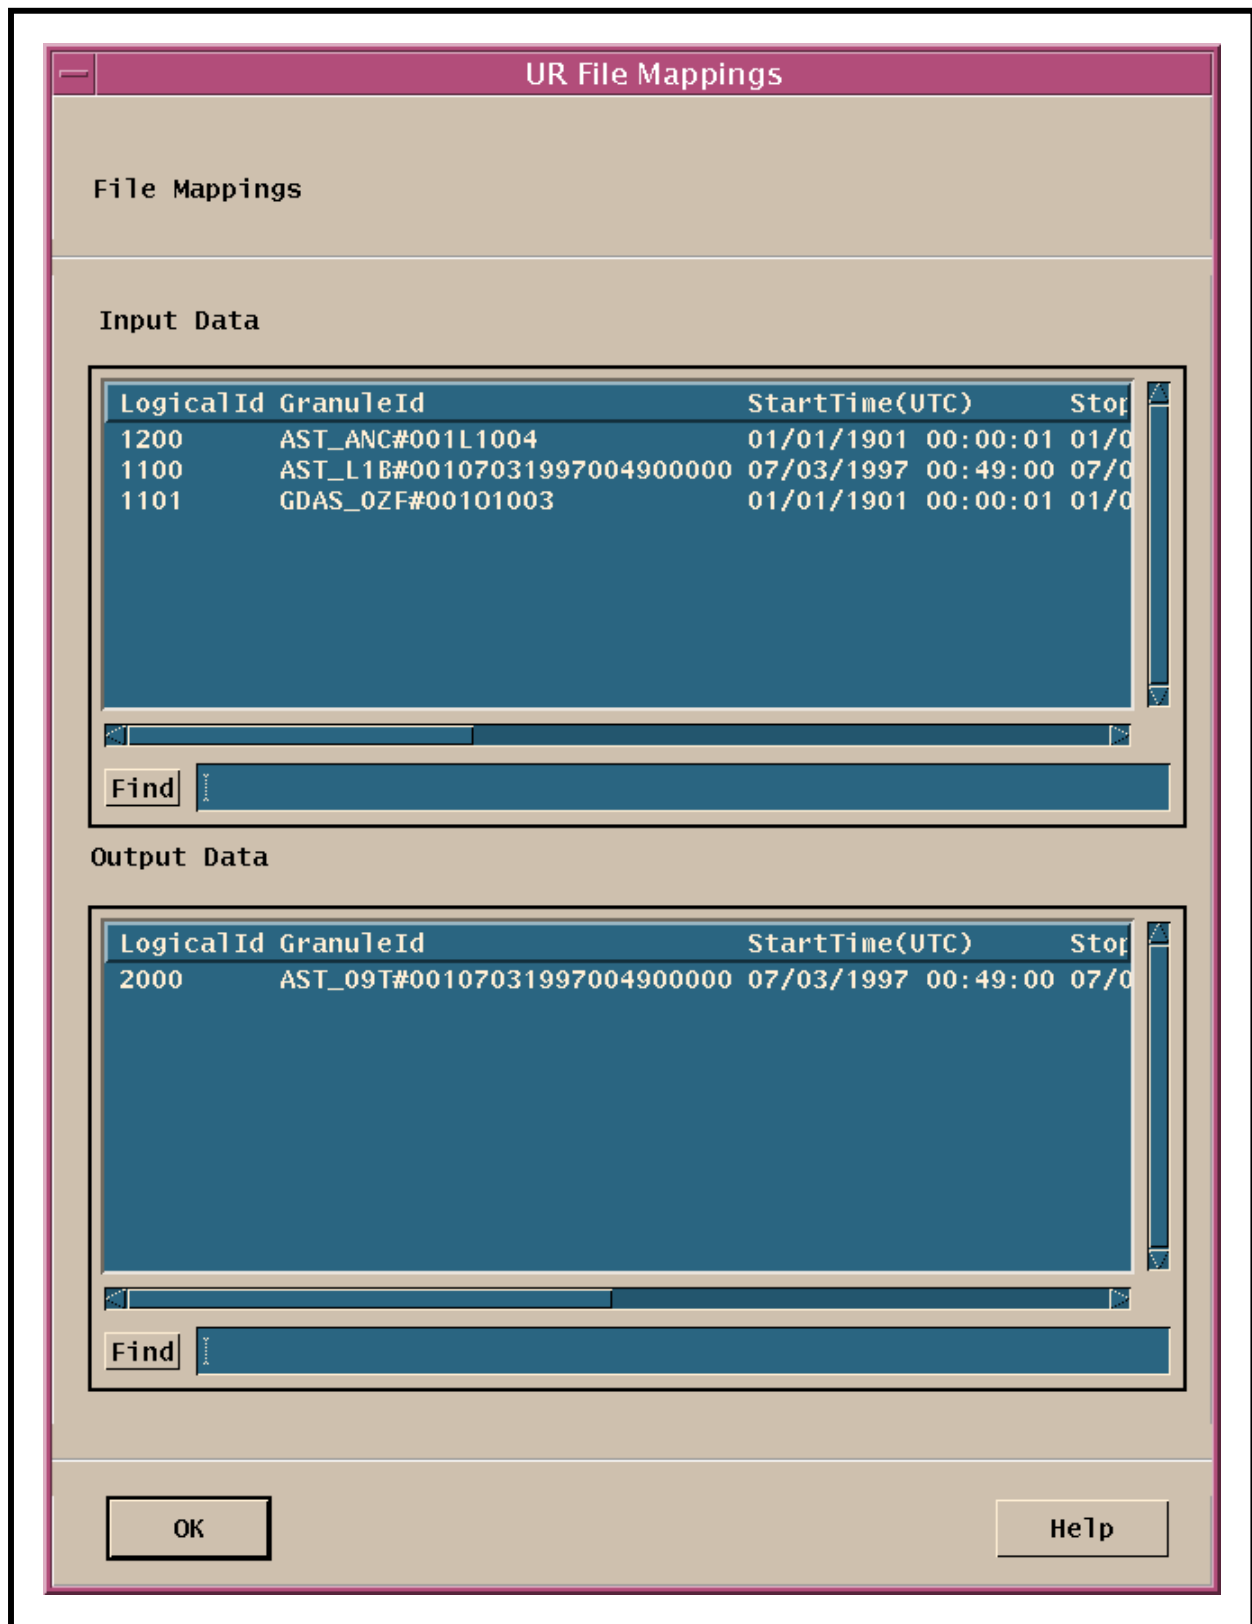

Figure 30. UR File Mappings GUI
- Displays the input and output files for a particular DPR on the **UR File Mappings** GUI (Figure 30)
- Logical ID - The identification (ID) or tag used within the PGE to access the file.
- The **UR File Mappings** GUI (Figure 30) is displayed.